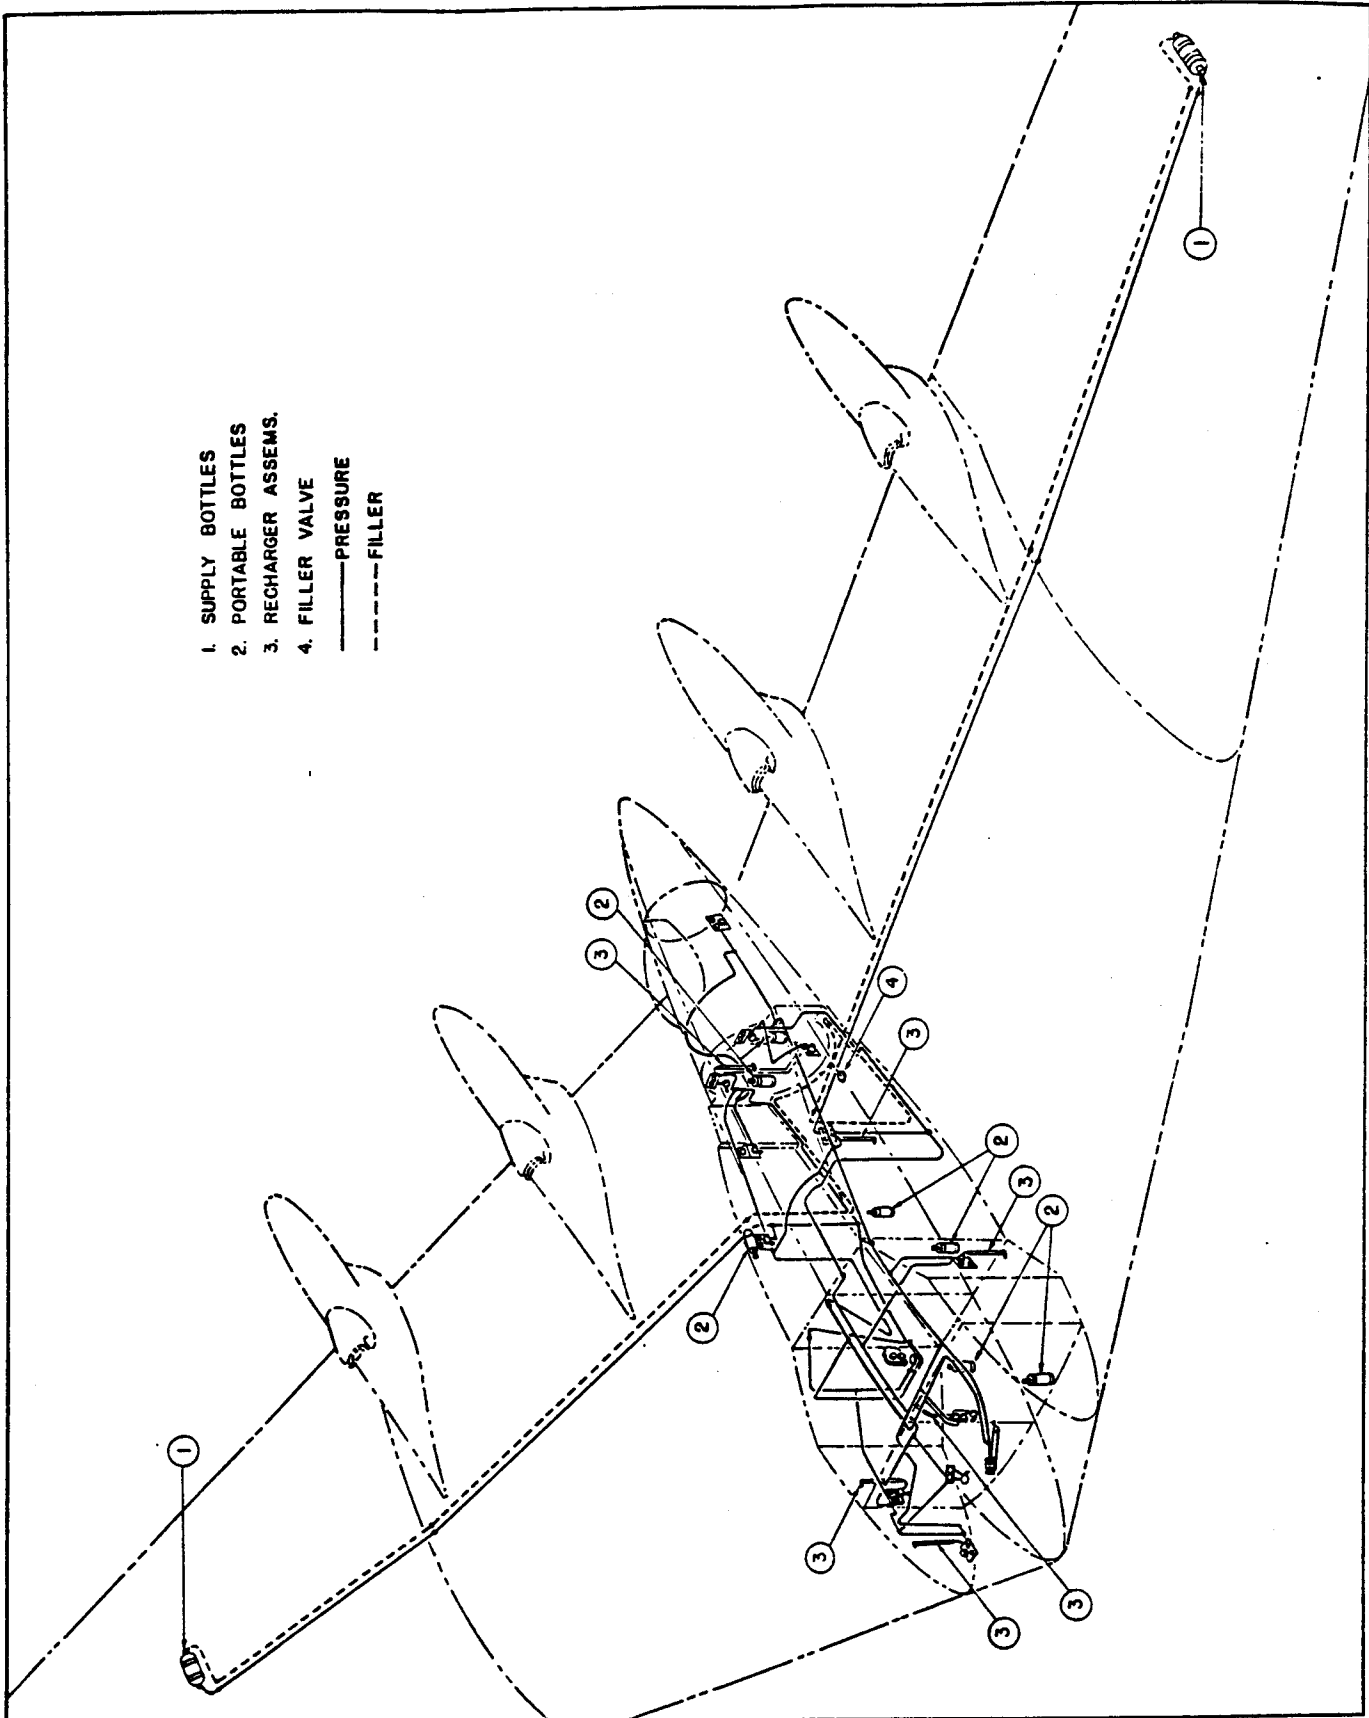

Figure 1. Oxygen System
19. OXYGEN SYSTEM. (See figure 1.)